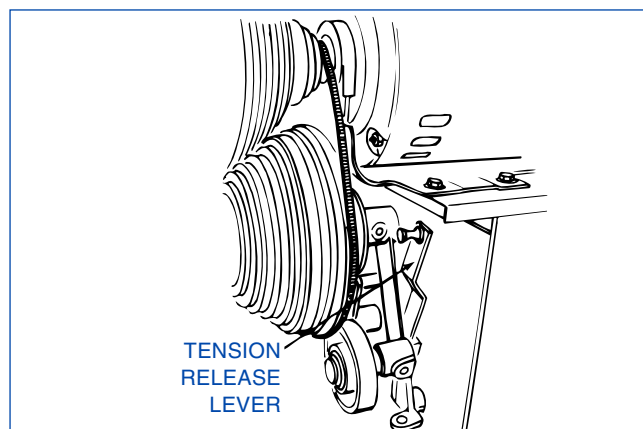

FIGURE 4-17, Tension Release Lever
5. Pull tension release lever (see Figure 4-17) down.